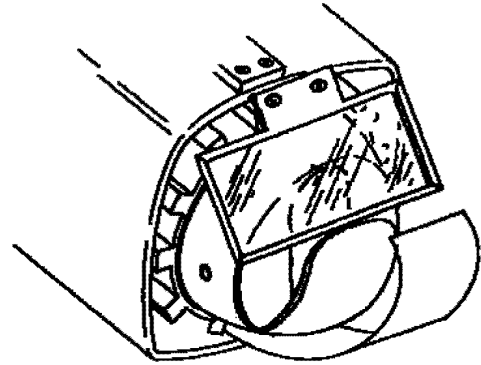

Figure 2. RG-6 Reflector
b. RG-6. Used for heating solder termination sleeves and shrinking large-diameter tubing. Has a 3/4 inch wide aperture and has to be ordered separately (Figure 2).